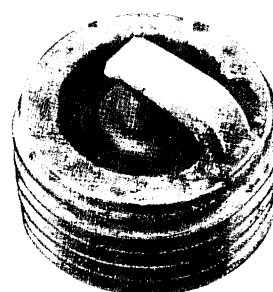

Fig. 21-34 Carbon-fouled plug (AC Spark Plug Division of General Motors Corporation)
3. Dry, sooty plug (Fig. 21-34). Need hotter plug, leaner mixture, or plugs are old and need cleaning or replacement.